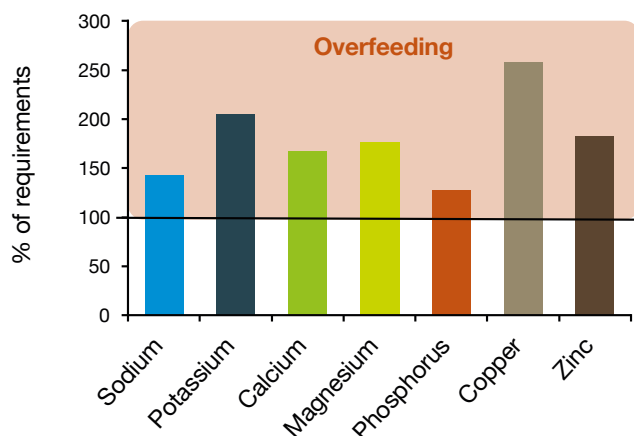

Figure 32. Average intake of some major and trace minerals on 50 dairy farms, expressed as a percentage of NRC (2001) requirements
- Contributions from additional sources (eg bolus, free access minerals) were calculated (Figure 32)